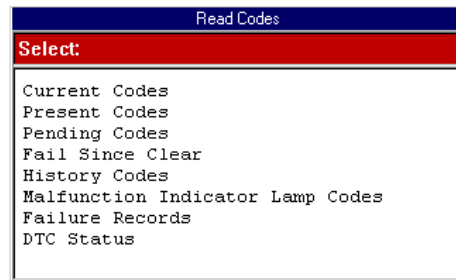

Figure 7.4: Read Codes Menu Screen Example
- If the Read Codes menu screen appears (Figure 7.4), go to step 4.